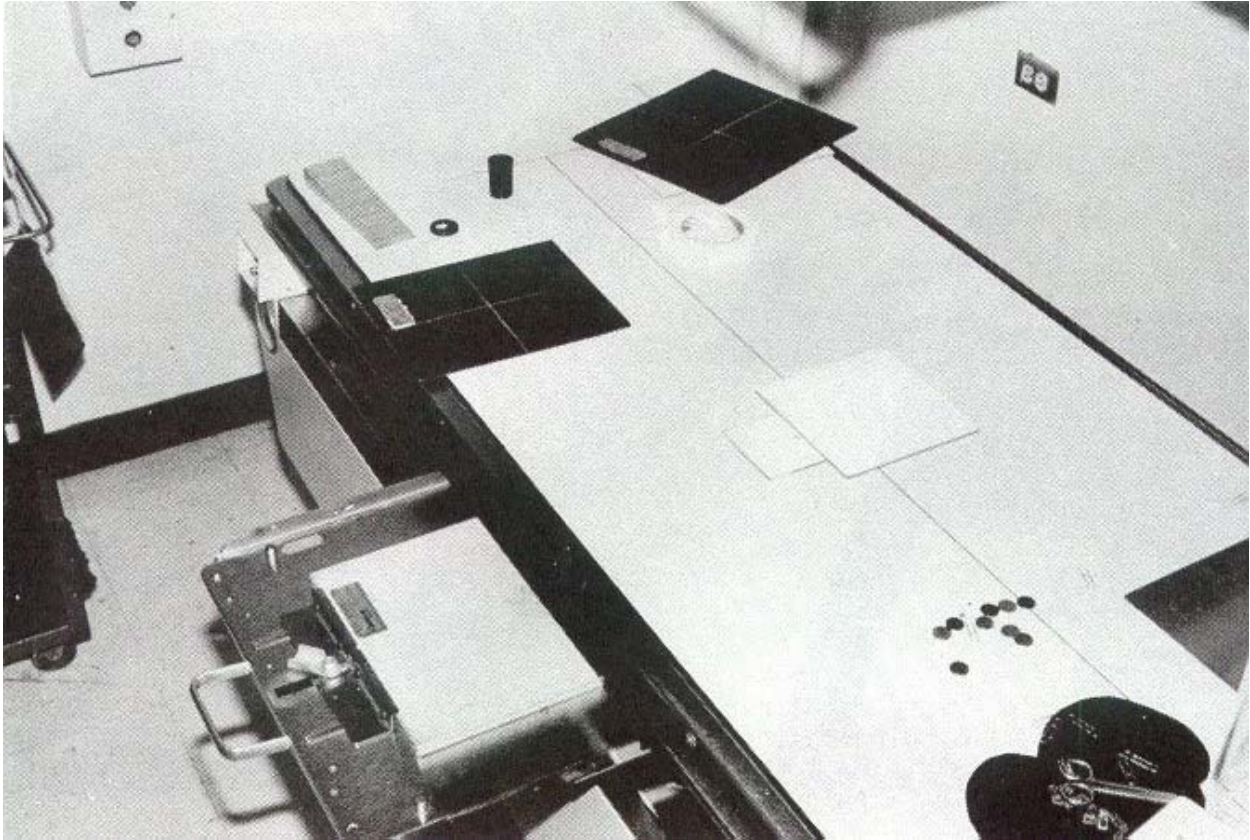

Figure 10-2. Lead shield over center hole exposing outer hole on test tool.
- (1) The width of the test tool.
- (2) Be sure only the center of the tool will be radiated.
- g. Insert plugs in the other holes (other than the center one) or place lead shields over them if there are no plugs (see figure 10-2).